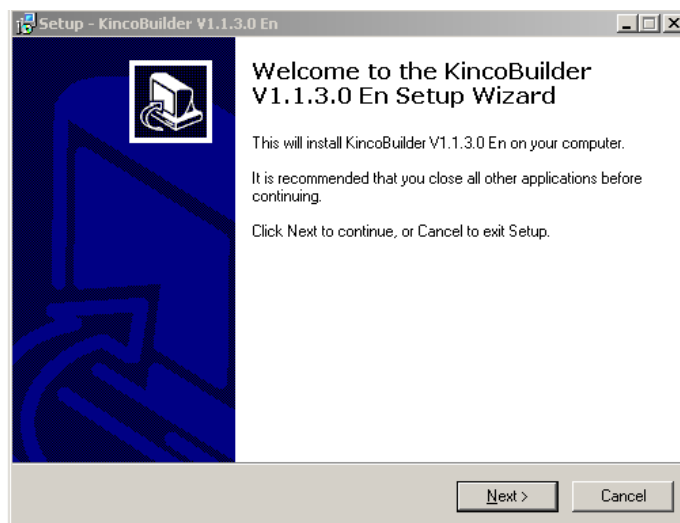

Figure 3-1
① Run **KincoBuilderVxxx_setup.exe** (xxx represents the version number, e.g. 1930) to launch the setup wizard as shown in Figure 3-1: